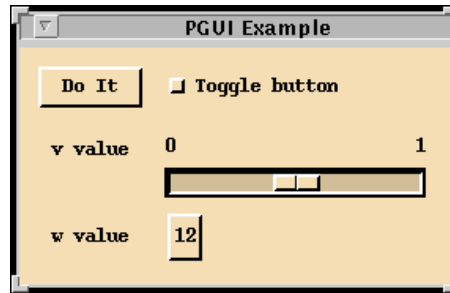
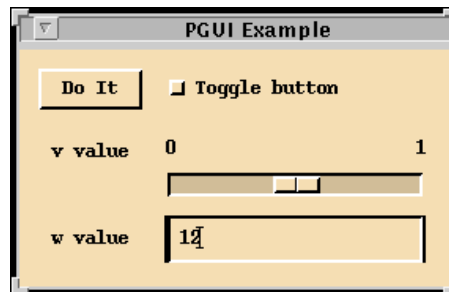

Figure A-2. Programmable GUI Examples Do It Dialog
Figure A-3. PGUI Example Dialog after Pressing the 12 Button
Tools that use the GUI will create windows that contain, control elements such as buttons, sliders, pull-down menus, plots, and lists. For example, Figure A-2 shows the Programmable GUI (PGUI) Example **Do It** dialog.
- A *button* (square shaped) is either on or off. Its indicator is filled in when it is on. It can be toggled by pointing and clicking the left mouse button. The button shown in Figure A-2 is off. Activating a button causes some action to be performed.
- The button labeled **12** shown in Figure A-2 is a variable edit box (displaying the value of the variable w). If you click this button, it is replaced by the “ w value” text entry area as shown in Figure A-3. After a value is entered from the keyboard, the text entry area is replaced by the button (for example, the **12** button).
- GUI windows might contain *sliders*, which resemble linear potentiometers and whose values are changed by a linear motion of the handle. The position of the slider’s handle represents its value. Usually the limits of the slider are shown at its ends. Figure A-3 shows a slider with minimum value 0 and maximum value 10. Its value is about 6. The value of a slider can be changed in several ways: